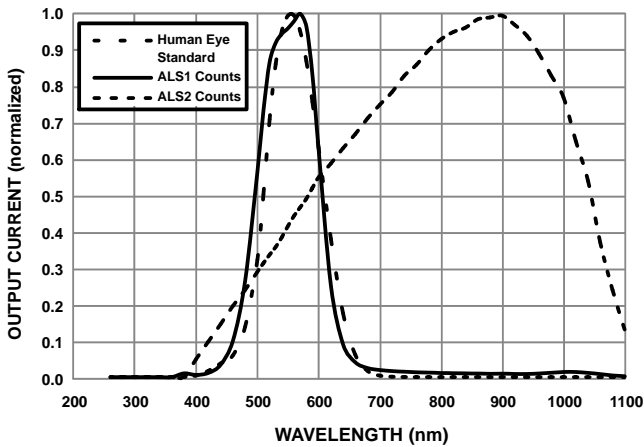

Figure 4. ALS Spectral Response (Normalized)
- Refer to Figure 4 for more information on spectral response.
7. Refer to Figure 4 for more information on spectral response.
The NOA3315 contains two ambient light sensors. The first ambient light sensor employs a photo diode with its own proprietary photopic filter limiting extraneous photons, and thus performing as a band pass filter on the incident wave front. The filter only transmits photons in the visible spectrum which are primarily detected by the human eye. The photo response of this sensor is as shown in Figure 4. The second ambient light sensor employs a similar photo diode but without a light filter. Either or both ALS can be enabled. When disabled, an ALS is put in power down mode.